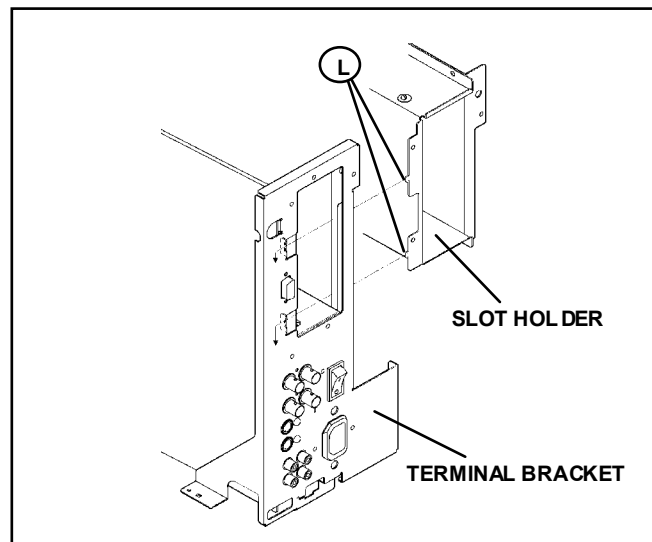

Fig.2
- 2. As shown in Fig.2, lift the slot holder slightly, and remove the claw marked (L) attached slot holder with the terminal bracket.